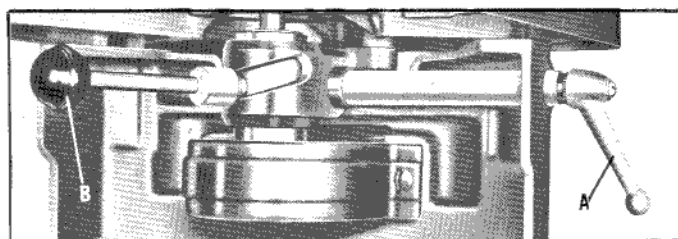

Fig. 9
1. Raise the spindle to the top position by loosening lock handle (A) and moving spindle control lever (B) Fig. 9, to the right.